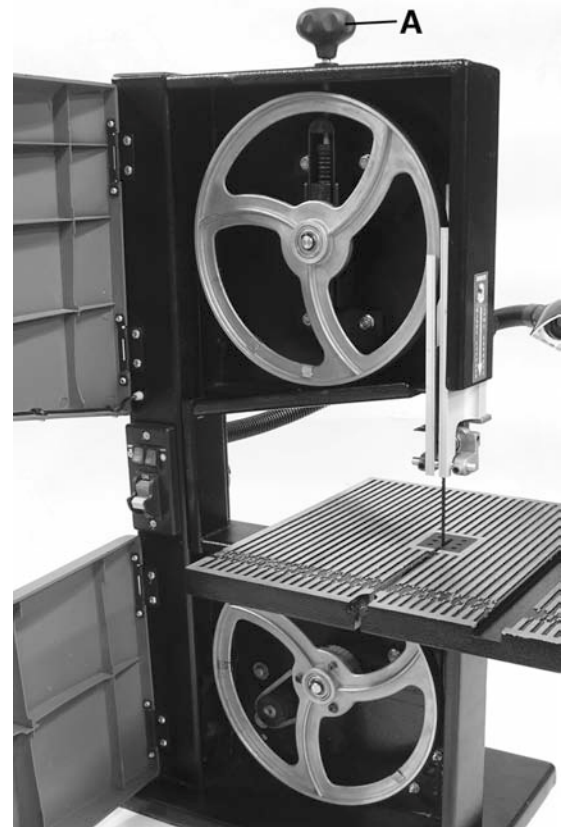

FIGURE 10
- 4) Loosen the blade tension adjusting knob (A) Fig.10 (counterclockwise).
Turn the blade tension adjusting knob (A) Fig.10 clockwise until the blade is tensioned. The blade tension can be checked by pushing on the blade midway between the two wheels. The blade should move slightly with firm finger pressure. It is recommended that the blade movement be only 1/8".